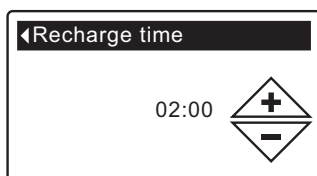

FIG. 41
5. Press the OK/MENU button to display the Recharge time screen (See Figure 41).